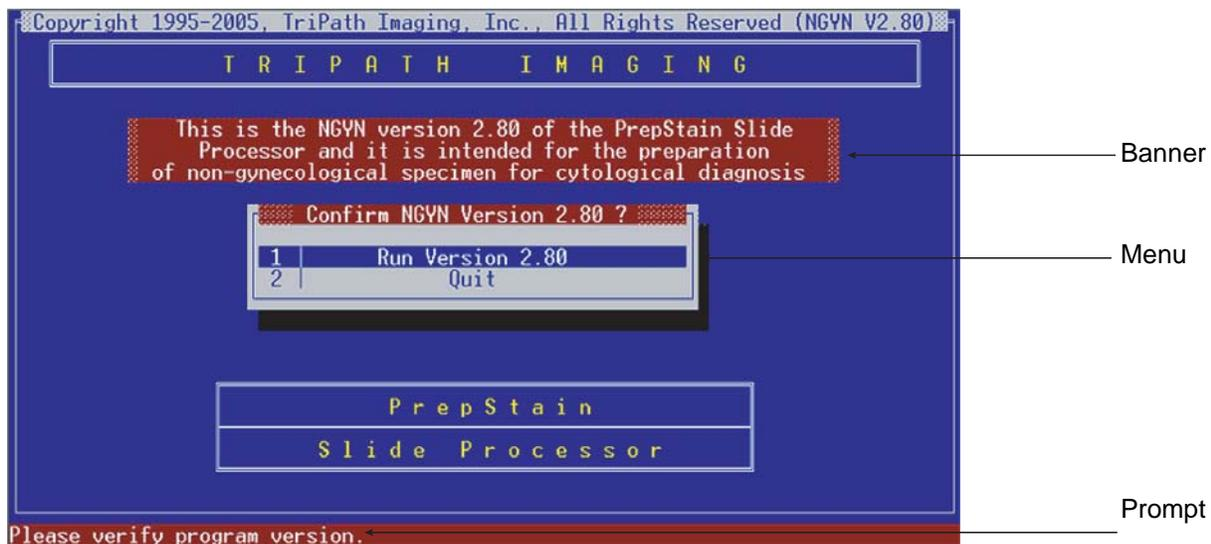

Figure C-1 PrepStain System Non-GYN Version Menu
Figure C-1 illustrates the initial welcome and version check screen that displays when you open the Non-GYN program.
The screens in the Non-GYN application are divided into three sections as illustrated in *Figure C-1*.
1. The GYN application runs automatically when you start the BD PrepStain™ instrument workstation. Exit this application to access a DOS prompt so that you can display the Non-GYN Version Check menu (*Figure C-1*). This screen provides access to all functions of the program.